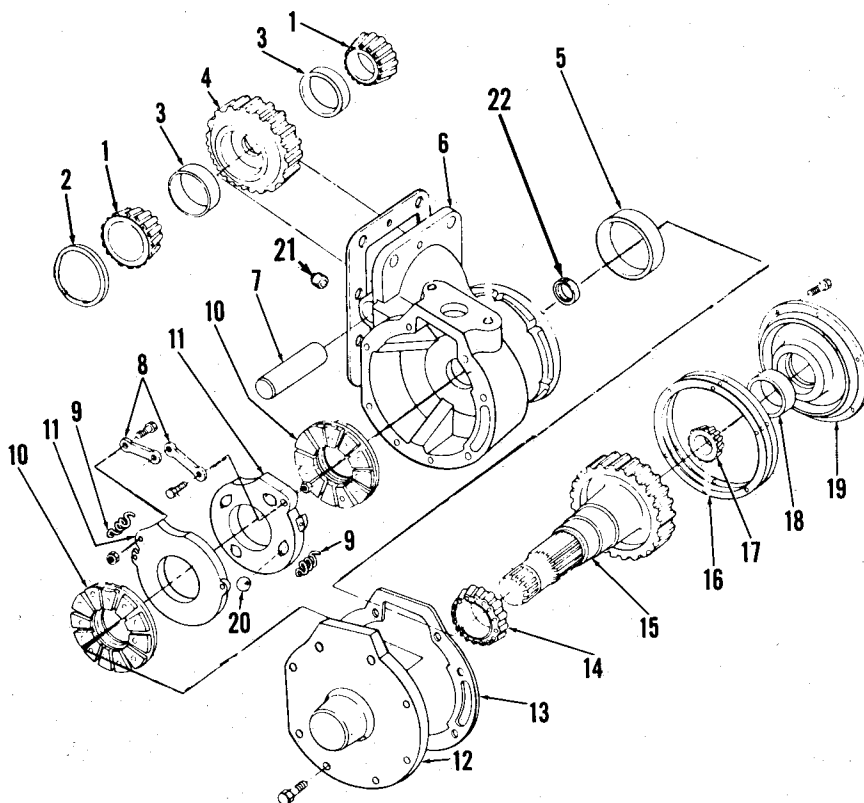

Fig. 167—Exploded view of transmission handbrake.
To overhaul transmission handbrake, remove rear cover (19—Fig. 167) and brake shaft (15). Heat idler shaft retaining screw (21) to loosen Loctite then remove screw. Withdraw idler